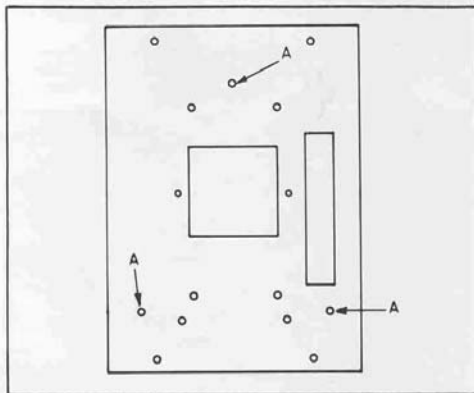
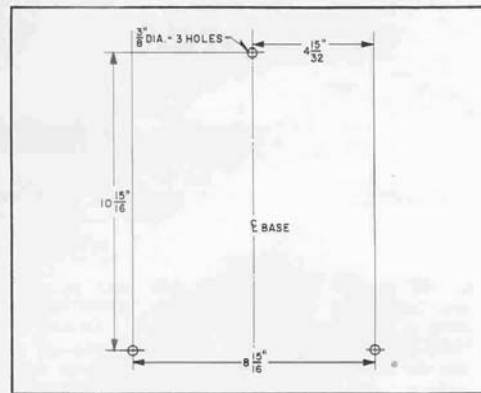

Fig. 11
Fig. 12
Assemble the drill press to the 50-508 Steel Stand using the three holes (A) Fig. 11. **IMPORTANT:** If the drill is to be used without the 50-508 Steel Stand, we suggest that it always be fastened to a supporting surface using the holes on the bottom of the drill press base. Fig. 12, illustrates the size and center to center distance of the holes to be drilled in the bench.